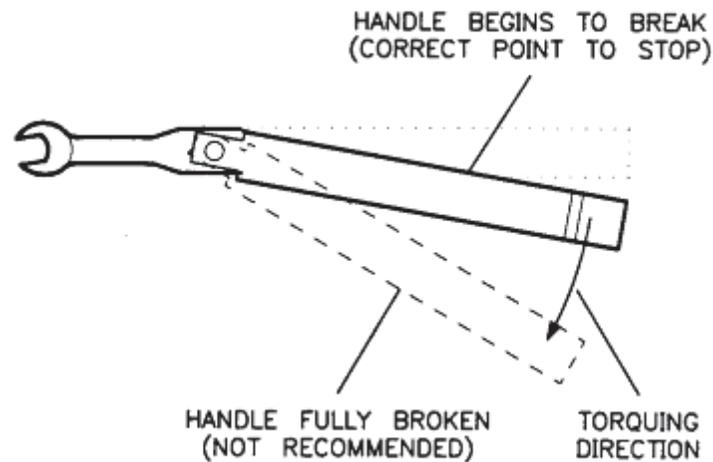

Figure 1. Using the Torque Wrench
| Figure 1. Using the Torque Wrench..... | 3 |
- Hold the torque wrench with your thumb and index finger, behind the groove in the handle (see **Figure 1**).